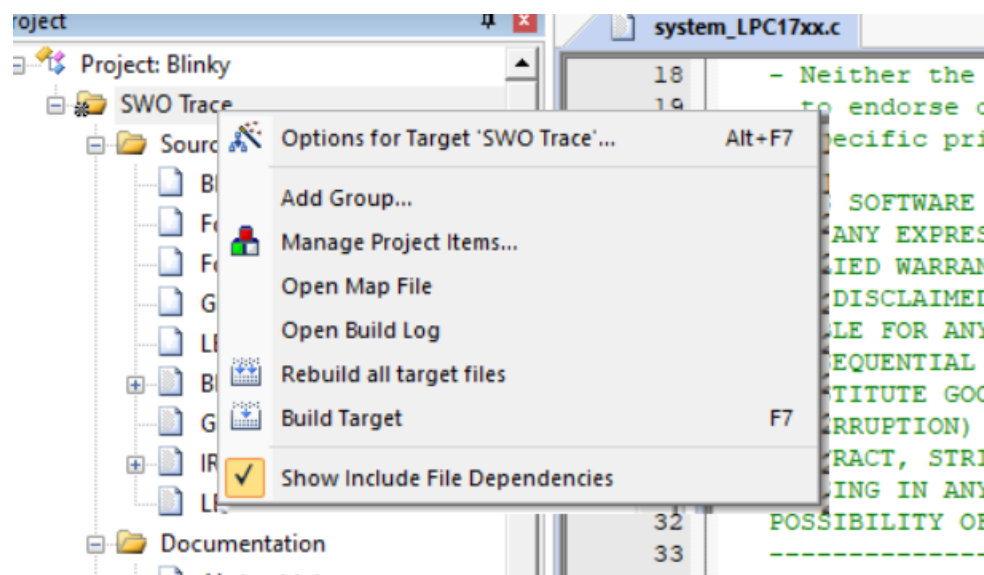

Fig. 12. Options for Target 'SWO Trace'
15. Right Click on SWO Trace as shown in Figure 12, select Options for Target 'SWO Trace...'
as depicted in Figure 12.
4. Right Click on SWO Trace as shown in Figure 12, select Options for Target 'SWO Trace' and select Utilities – uncheck Use Debug Driver and make sure 'ULINK2/ME Cortex Debugger'. Click on Settings >> Flash Download and tick Reset and Run. Click OK. Then click OK to close Options for Target 'SWO Trace'.